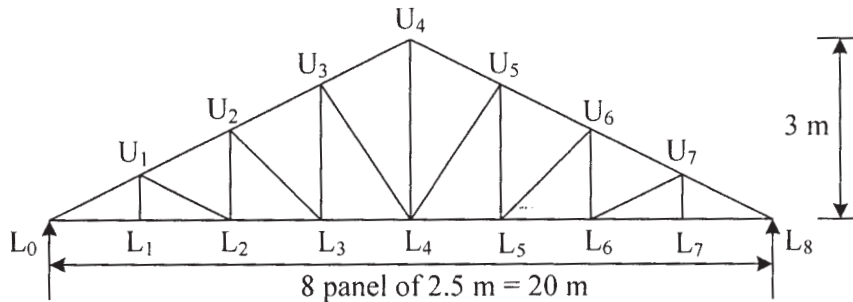

Fig. 7
**Q7)** A truss shown in Fig. 7 is used for an industrial building covered with A C sheet of self weight  $180 \text{ N/m}^2$  located at Pune. Calculate the panel point dead, live and wind load. Also design the members  $L_0L_1$ ,  $U_1L_1$  and  $L_0U_1$ , assuming spacing of trusses 4 m,  $k_1 = 1$ ,  $k_2 = 1$ ,  $k_3 = 1$ ,  $d(C_{pe} - C_{pi}) = \pm 1.0$ . Draw the design sketches. [25]